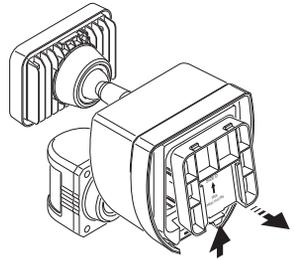

Figure 3
4. Press up on the battery compartment cover locking tab and swing the cover out and down to remove (see Figure 3).